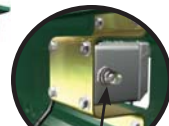

Fig. 4.8
- 6- If necessary, reset the hand tool power outlet by pressing and releasing the reset button located in the vinyl bubble on the outlet, inside the mast guard support panel (fig. 4.8).